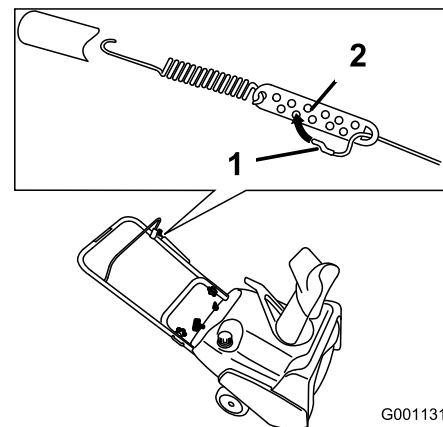

Figure 21
2. Move the Z-fitting to a higher or lower hole on the adjuster link as needed to obtain the 1/16 to 1/8 inch (2 to 3 mm) gap between the control bar and the handle (Figure 21).